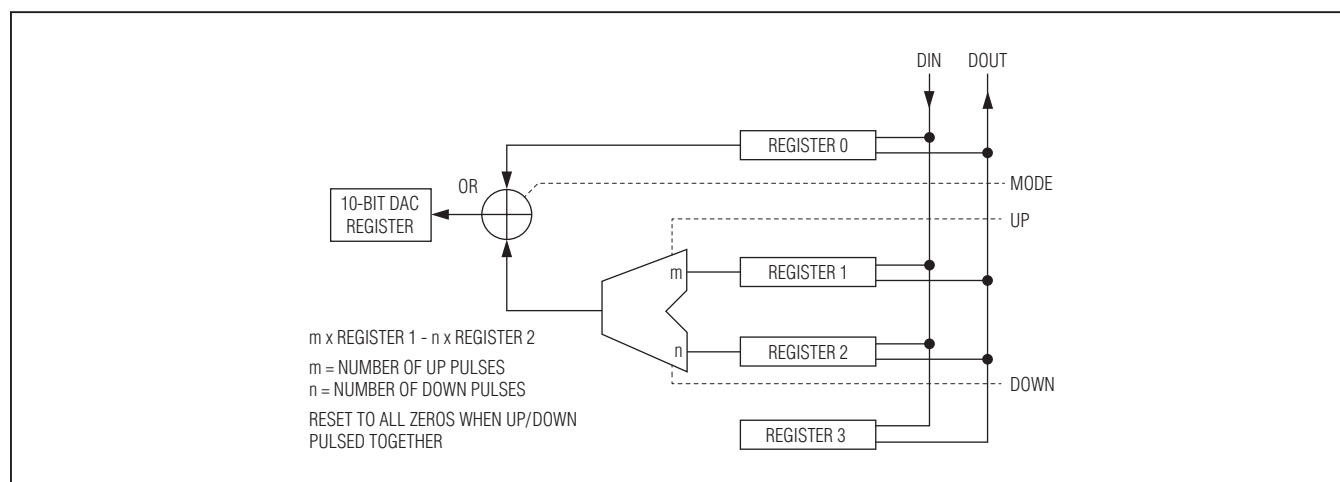
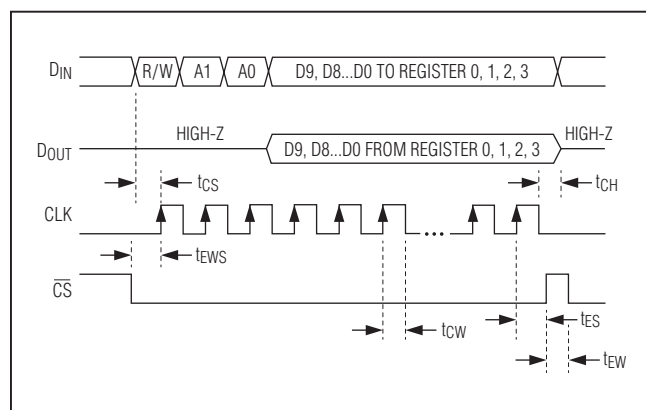
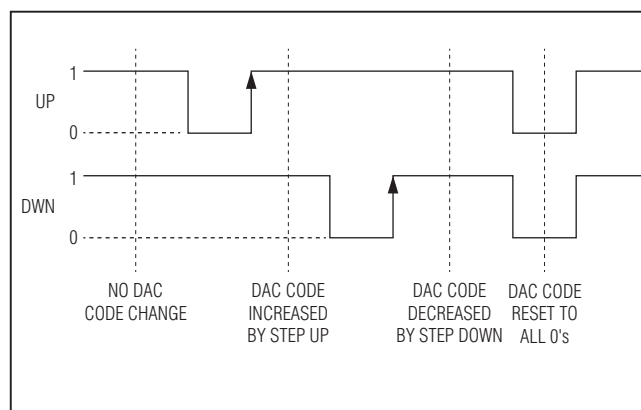

Figure 1. Register Configuration Diagram
Figure 2. SPI Timing Diagram
Figure 3. UP/DWN Control Diagram (Mode = 1)
Figure 1 shows the configuration of the internal registers of the device, and Figure 2 shows the timing of the SPI bus. Register 0 is used to set the DAC code to the desired value, register 1 selects the step-up code, and register 2 selects the step-down code.
in Figure 1. This is applied to the 10-bit DAC register that drives the DAC. To increase (decrease) the code using the UP (DWN) pin, the DWN (UP) pin must be high and the UP (DWN) pin should be pulsed low to high. The part is designed to produce no wraparounds when using UP and DWN stepping, so the DAC code maxes out at 1023 or goes no lower than 0. See Figure 3 for the UP and DWN control operation.
The device can be controlled with a 4-wire SPI-compatible serial interface. Figure 2 shows a timing diagram for the interface. In the write mode, a 13-bit word is loaded into the device through the DIN pin with $\overline{\text{CS}}$ set low. The first bit of the word in the write mode is 0, and the next two bits select the register to be written to. See Table 2. The next 10 bits contain the data to be written to the selected register. After the 13 bits are shifted in, a low to high $\overline{\text{CS}}$ command is applied and this latches the 10 bits into the selected register. The entire write command is ignored if $\overline{\text{CS}}$ is pulsed low to high before the last data bit is successfully captured.